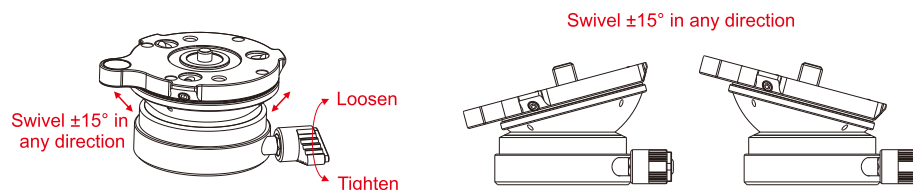

Fig 3
- ① To prevent a ball head from unscrewing from the Leveling Base, use an Allen key to adjust the Ball Head Locking Screw so that it presses against the base of the Ball Head. Do not use excessive force. Use all 3 Ball Head Locking Screws for best results. Remember to loosen the Ball Head Locking Screw before removing the ball head.
- ② As shown in Fig. 3, loosen the Leveling Control Locking Knob and adjust the Leveling Ball to the desired angle (use the bubble level on the platform for precise alignment), tighten the Leveling Control Locking Knob.